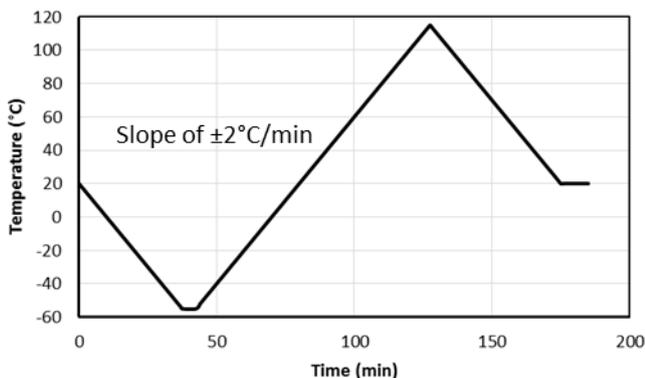

Figure 25: Recommended Temperature profile for calibration
2. Place the sensor on a rate table in a thermal chamber and implement temperature profile according to Figure 251